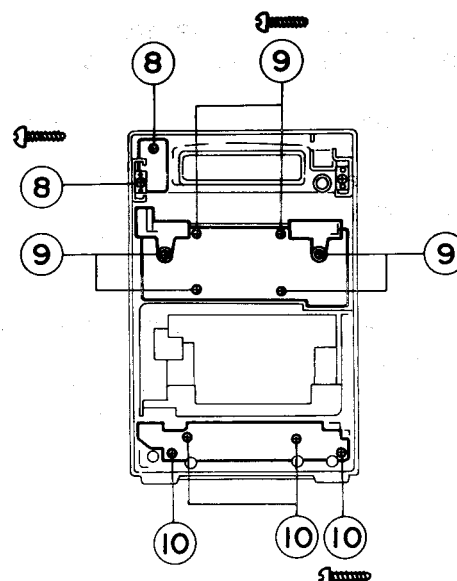

Fig. 7-6
■ How to Remove Various P.C. Boards Mounted on the Front Panel Ass'y (Refer to Figs. 7-6 and 7-7)
4. Remove the two screws (8) retaining the power source and CD tray switch P.C. board.
5. Remove the six screws (9) retaining the operation switch P.C. board.
6. Remove the four screws (10) retaining the cassette operation switch P.C. board.